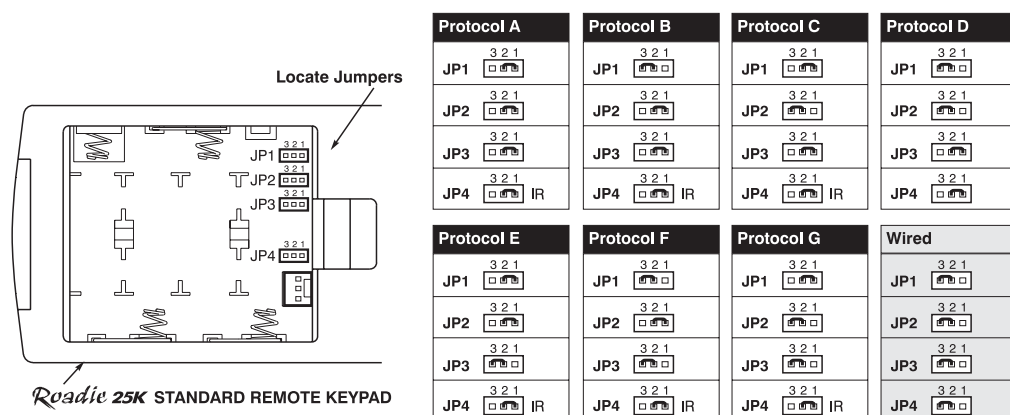

Figure 2.44. Setting the Jumpers in the “Brick” Rental Staging Remote
Set the jumpers to match one of the protocols shown in Figure 2.44. Use tweezers or needle-nose pliers to remove and replace each jumper as necessary.
If desired, you can convert this IR remote keypad into a wired remote keypad and vice versa. Set the jumpers as shown in Figure 2.44, and add or delete the cable (supplied) and batteries as required.
5. Set keypad protocol to “wired” jumper setting (refer back to Figure 2.44). Make sure to set jumper #4 between pins 2 and 3 as shown in the last example (shaded).
5. Set jumpers according to the desired IR protocol (refer back to Figure 2.44). Make sure to set jumper #4 between pins 1 and 2 as shown for all remote IR protocols.